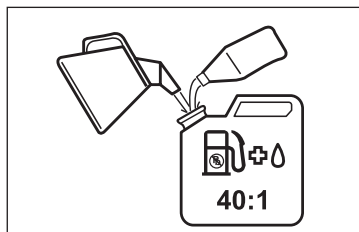

Fig. 7
2. Mix a regular-grade unleaded petrol and a quality engine oil for air cooled 2-stroke engines in a suitable container (Fig. 7). Fill half the quantity of the petrol to be used into the container. Then add the entire quantity of oil and shake the prepared fuel mixture. Add the remaining quantity of petrol. Shake the fuel mixture thoroughly before filling the fuel tank.